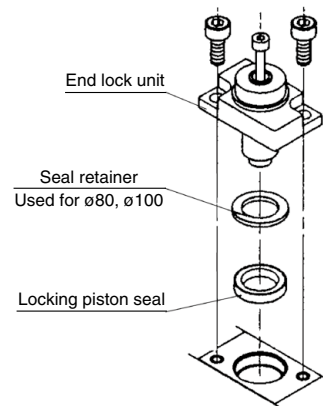

Fig. 1 How to remove end lock
a. Removal of the end lock: Fig. 1.